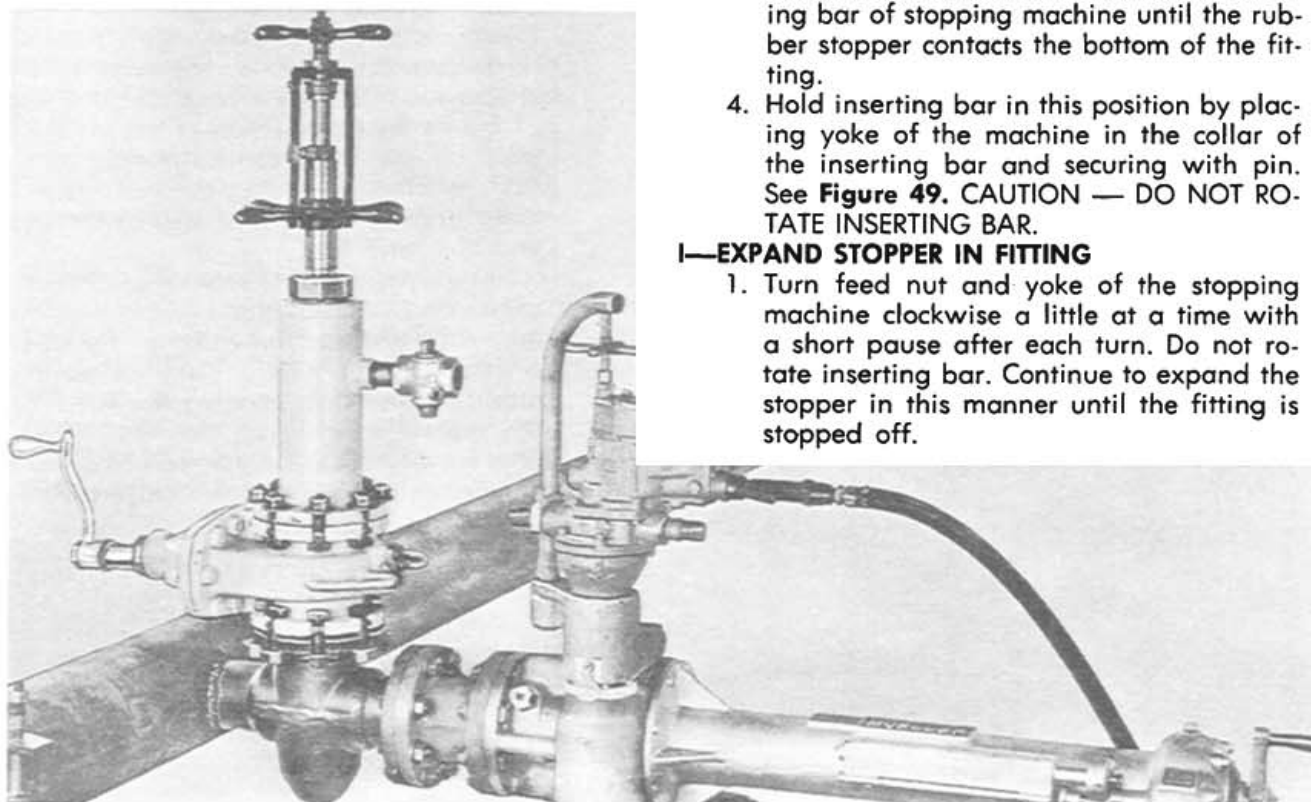

FIGURE 49
4. Hold inserting bar in this position by placing yoke of the machine in the collar of the inserting bar and securing with pin. See **Figure 49.** **CAUTION — DO NOT ROTATE INSERTING BAR.**